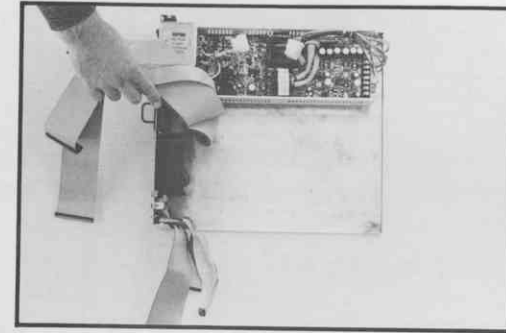

Figure 34 Cable Removal
- 4.11 Lift the cables out of the chassis and fold them to one side as shown in Figure 34.